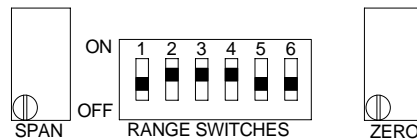

Figure 3
5. Using a small slotted screwdriver, adjust the Zero potentiometer (Figure 3) until the desired temperature is shown on the display.
4. Adjust the meter's Zero potentiometer (Fig. 3) until the meter reads your low end (Zero) temperature.